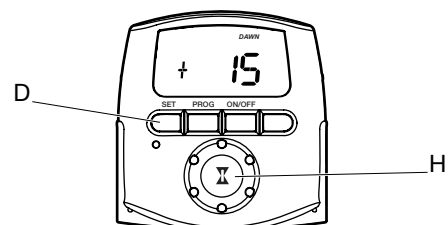

FIG 6. Setting the DAWN/DUSK Offset Time
9. Turn the selector knob (H) to adjust the DAWN offset time (+/- 15, 30, 45 or 60 minute increments). Press **SET** (D). Offset is the amount of minutes you want the lights to come on before (-) or after (+) DAWN or DUSK. Repeat for the DUSK offset time. See FIG. 6.
10. Press **SET** (D) to finish setting up the timer.